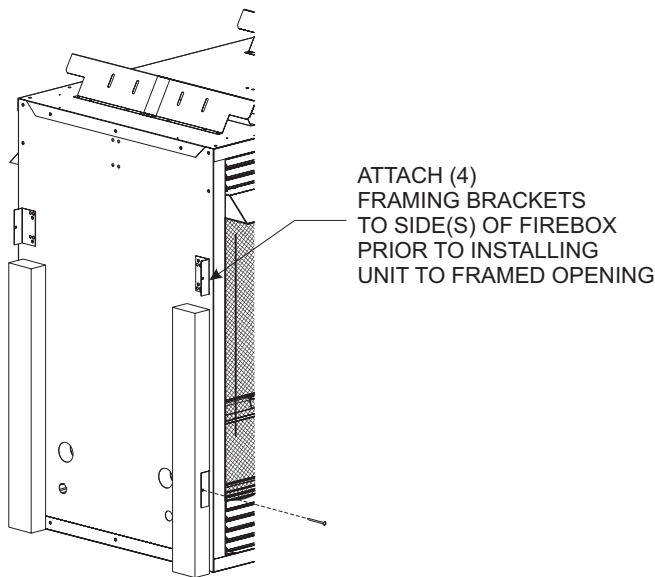

Figure 7
Place firebox in framed opening. Attach the framing brackets to the firebox and secure firebox to framing. Different hole locations can be used for finishing materials with thicknesses of 3/8", 1/2" and 3/4". Secure the brackets with screws provided using two (2) per framing bracket. See Figure 7.